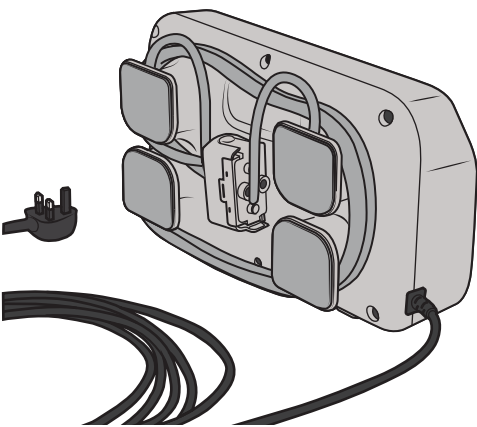

Figure 39
2. Wrap the pump tube-set around the hanging brackets anticlockwise. See Figure 39.